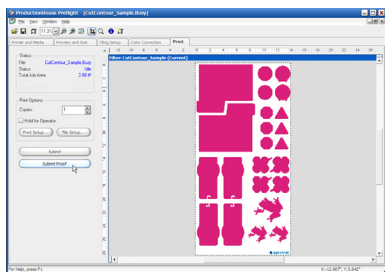

Figure 8—Proofing from Preflight
3. Once you have made the desired changes, click the **Print** tab in Preflight (see Figure 8).